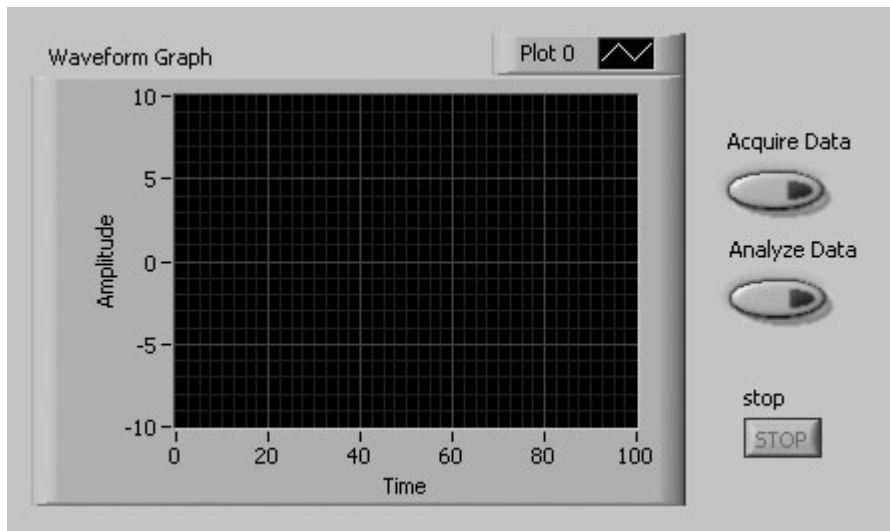

Figure 13.71
3. Your front panel should look like the one shown in Figure 13.71. Ensure that each of the Buttons are configured for **Mechanical Action>>Latch When Released** so that they rebound to FALSE after their terminals are read on the block diagram.